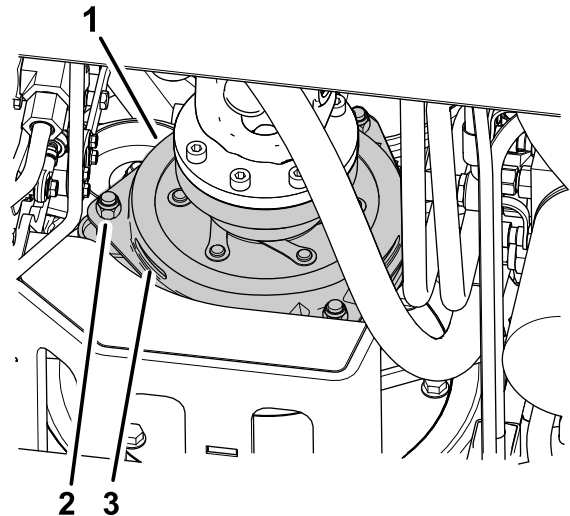

Figure 75
3. Adjust the air gap so that a 0.3 mm (0.012 inch) feeler gauge slides in between the clutch lining and friction plate with light pressure (Figure 75).
Note: You can decrease the gap by turning the adjusting nuts clockwise (Figure 75). The maximum service gap is 0.6 mm (0.024 inch). Adjust all 3 air gaps to 0.4 mm (0.012 inches).